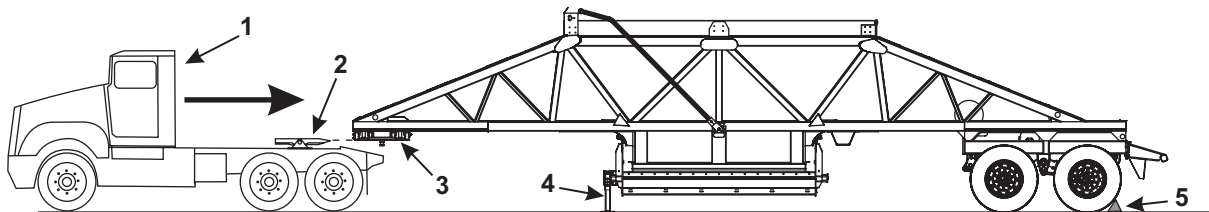

Figure 3-11 – Tractor height alignment with semitrailer
- Check to make sure that the semitrailer nose (3, Figure 3-11) is just slightly below the fifth wheel height (2, Figure 3-11). If the semitrailer nose is too low, it may strike the tractor. If the semitrailer nose is too high, the fifth wheel may not couple correctly to the king pin.
- As needed, raise or lower the trailer nose using the landing gear support legs (4, Figure 3-11).
- As soon as the pneumatic (air) lines have been connected to the semitrailer, pressure will begin to build. The building air pressure will release the trailer brakes, allowing the trailer to move. Make sure the trailer wheels have been chocked (5, Figure 3-11).